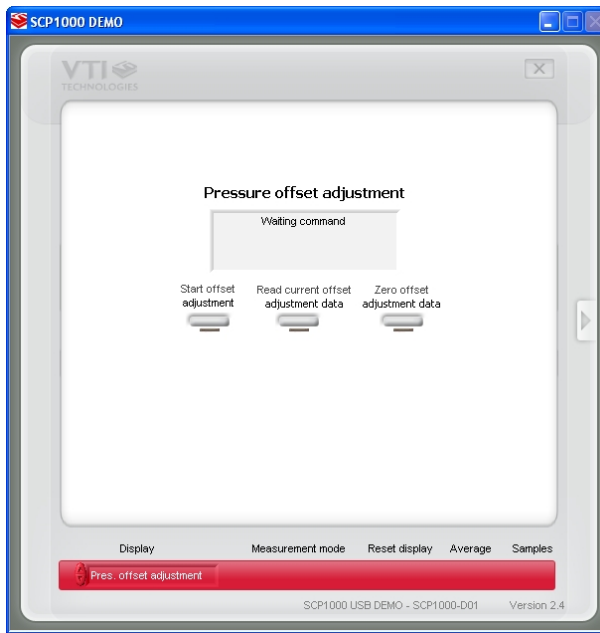

Figure 9. Pressure offset adjustment display.
- 1) more information on SCP1000 offset adjustment in Figure 9 and in TN48